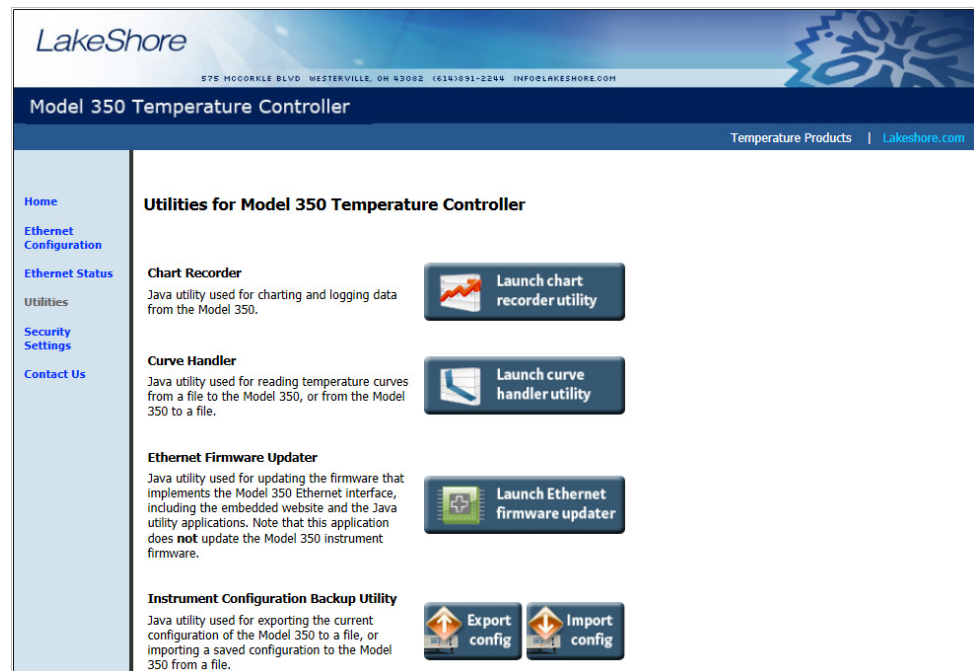

FIGURE 6-8 Utilities page
1. On the **Utilities** page in the Model 350 embedded website, click **Export config** (FIGURE 6-8).
1. On the **Utilities** page in the Model 350 embedded website, click **Import config** (FIGURE 6-8).